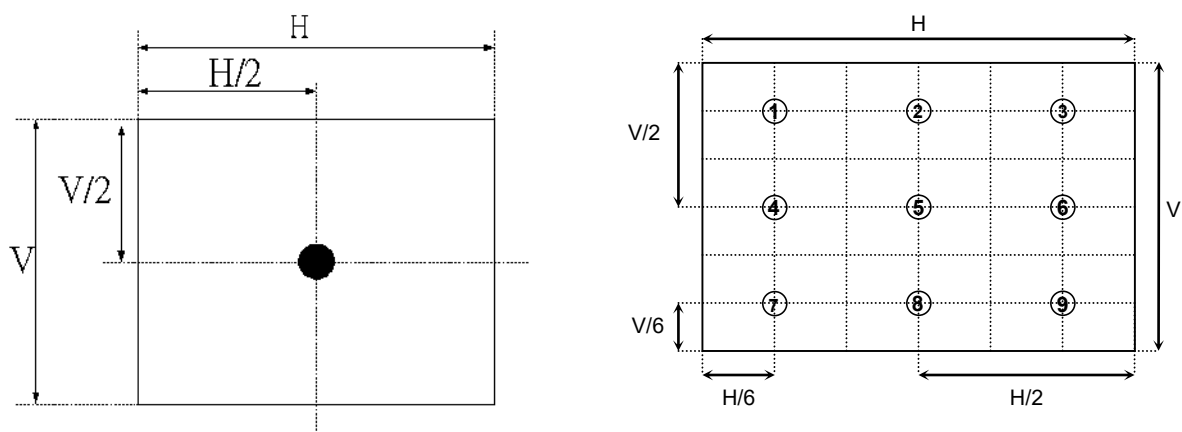

Fig. 3
3. The variation in surface luminance, δWHITE is defined (center of Screen) as (**Fig. 3**):